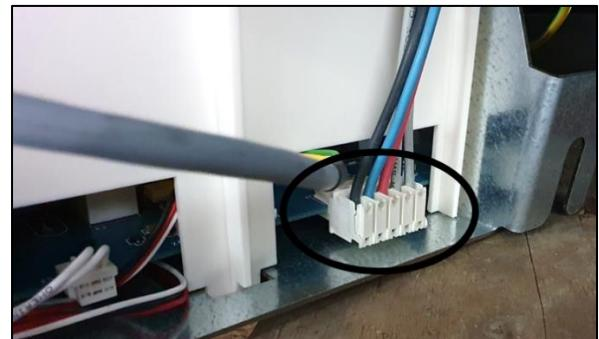

Fig.2.8
16. Connect the **motor** adapter cable (Fig.2.8)